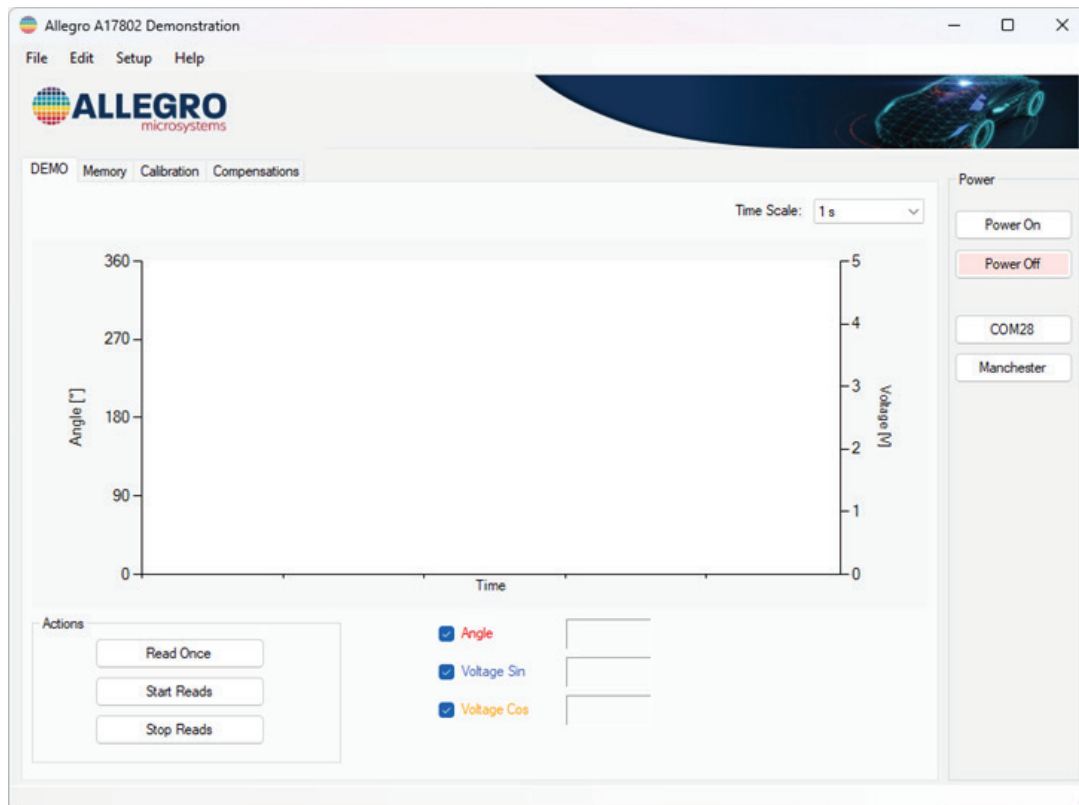

Figure 4: Application When COM Port Is Detected
- If the sidebar on the right side of the GUI displays the correct COM port number and a red Power Off button (as shown in Figure 4), the application successfully detects the COM port.
5. After the application detects the COM port (as shown in Figure 4), click the Power On button to power up the A17802.